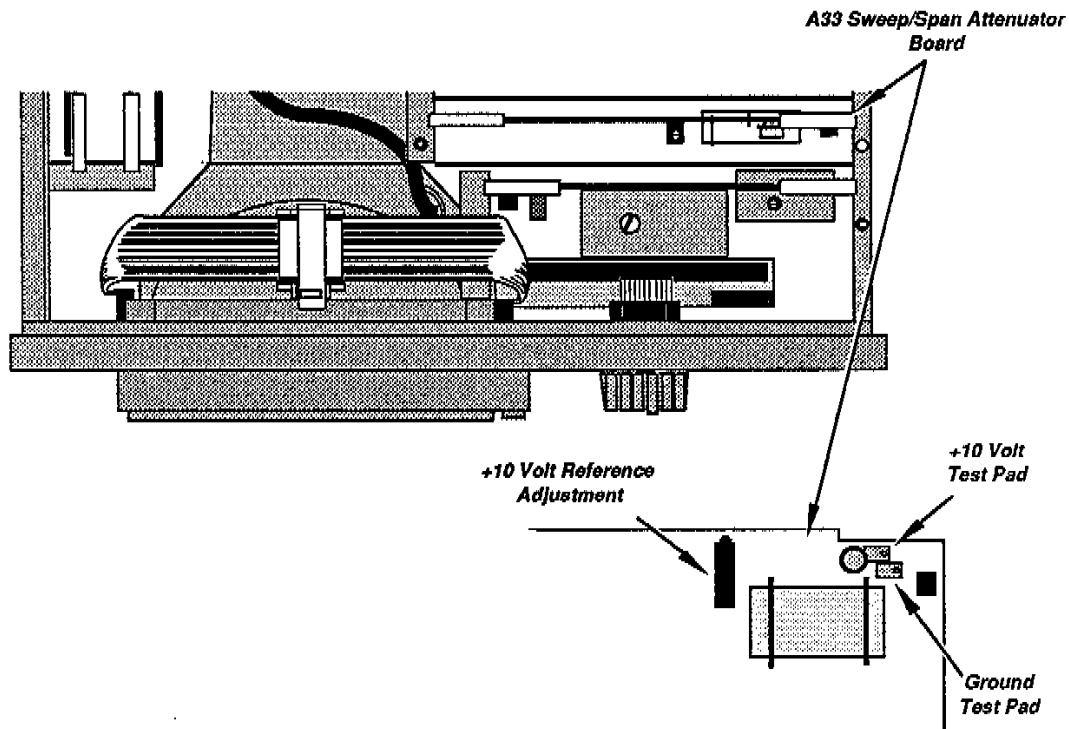

Figure 3-5. +10 Volt Reference Test Points and Adjustment.
2. Locate the two +10 V test points on the Sweep/Span board (shown in Figure 3-5). One test point provides access to the +10 V reference voltage, and the other test point provides access to a ground for the +10 V supply. This ground test point must be used when adjusting the +10 V reference.
4. With the digital voltmeter set for the 20 V scale, adjust the +10 Volt Reference adjustment (shown in Figure 3-5) for a reading of 10.00 volts ± 0.01 volt.